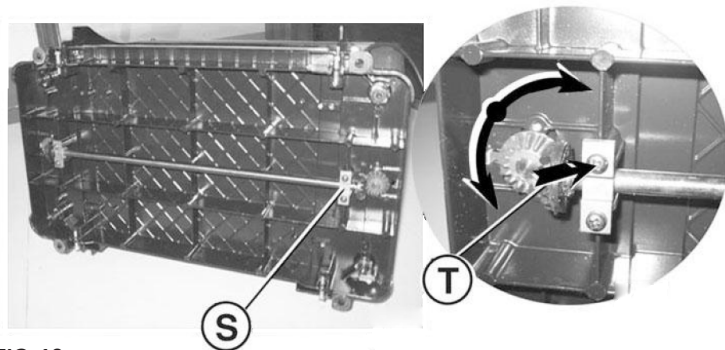

FIG. 10
**Parallellism adjustment (Fig. 10)**